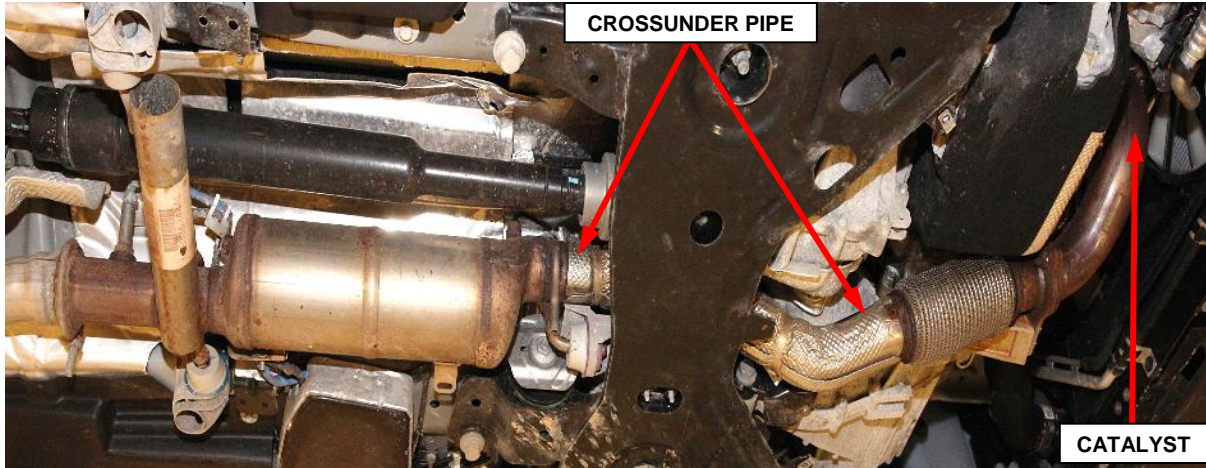

Figure 41 – Exhaust Crossunder Pipe
40. **2.2L Diesel Engine:** Remove the exhaust crossunder pipe following steps (a-k) (Figure 41).